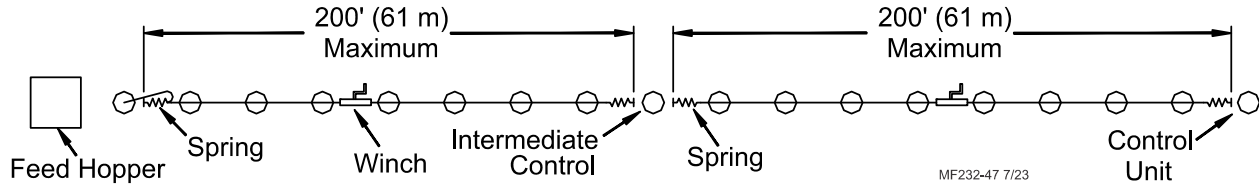
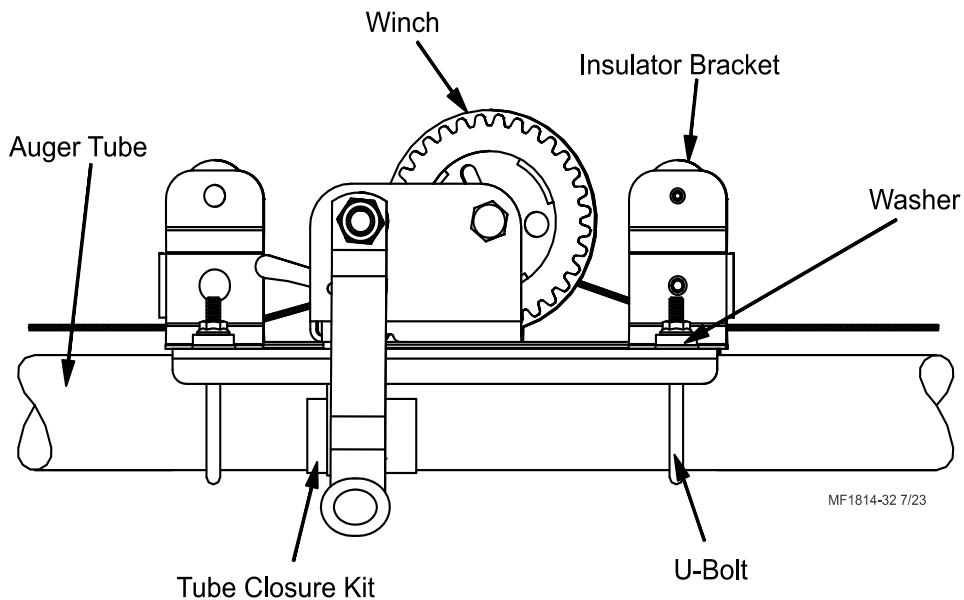
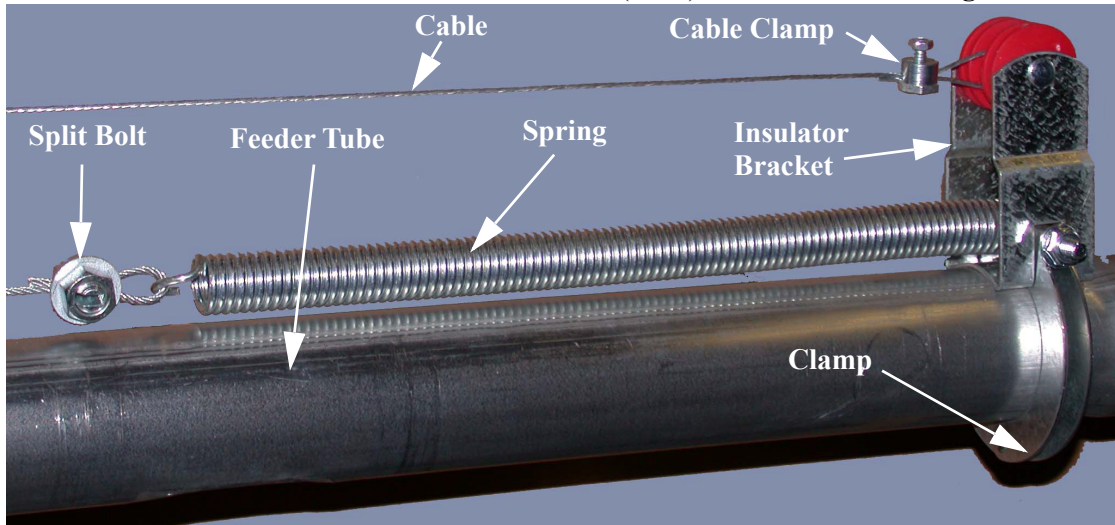

Figure 36. Installation of the Winch Adjustable Feed Level Tube System
Figure 37. Winch Installation
Figure 38. Spring and Insulator Bracket Installation
The Feed Level Tubes are adjusted using a winch and cable. The maximum line length for each winch is 200' (61 m). The winch should be located in the middle of the line of feeders it is to adjust, see figure 36.
1. Use two U-bolts provided to fasten the winch to the feeder line tube, see figure 37. The winch should be placed in the center of the line of Feed Level Tubes it will adjust, as shown in Figure 36. **THE LINE LENGTH MUST NOT EXCEED 200 FEET (61 M).**
- Anchor spring to clamp on each side of the winch, see **figure 38**. Attach the Tube Clamp/Spring assemblies to the feeder line tube at a maximum distance of 100 feet (30 m) from the winch, see **figure 36**.
- Loop the cable around the end of the spring and secure with a split bolt cable clamp, see **figure 38**.